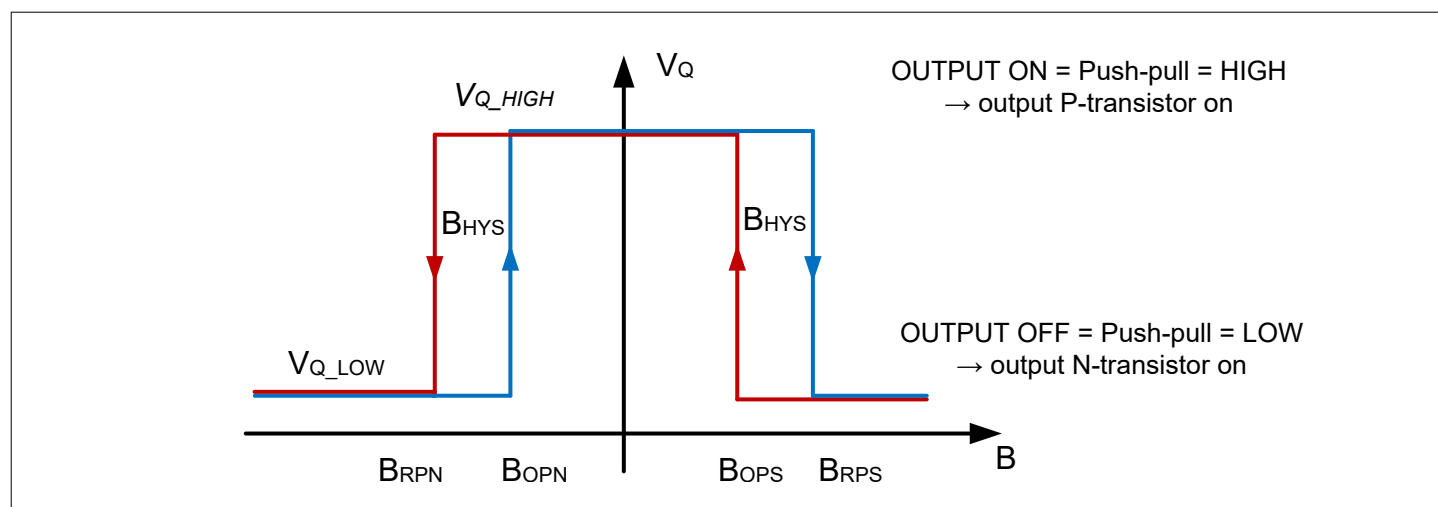

Figure 3 Output signal curve
In Figure 3 the magnetic working principle of an omnipolar switch is illustrated. When the applied magnetic field is released and the release point B_{OP} is passed, the device output switches on. When a magnetic field is applied and the operating point B_{RP} is passed the device output switches off. As an omnipolar device, the switch reacts to positive fields (S) as well as to negative fields (N). Operating point and release point are separated by hysteresis B_{HYS} to avoid transient fast-switching events between both states.